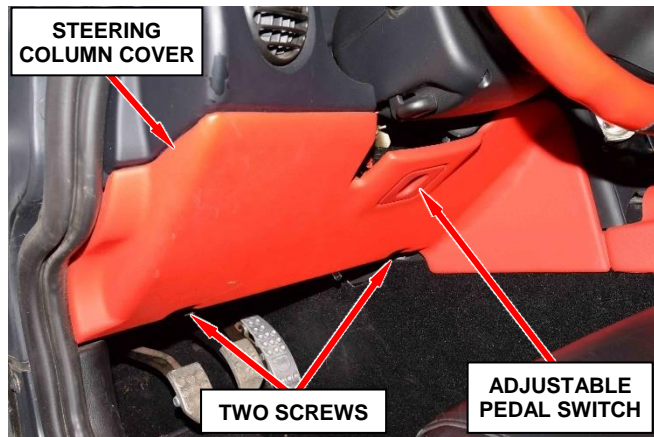

Figure 8 – Steering Column Cover
21. Remove two screws then release the retaining clips securing the left side steering column cover (Figure 8).
22. **If equipped**, disconnect the adjustable pedal switch electrical connector from the left side steering column cover (Figure 8).
23. Remove the left side steering column cover from the vehicle (Figure 8).
59. **If equipped**, connect the adjustable pedal switch electrical connector to the left side steering column cover (Figure 8).
60. Position the left side steering column cover to the instrument panel (Figure 8).
61. Engage the retaining clips securing the left side steering column cover to the instrument panel (Figure 8).
62. Install the two screws securing the left side steering column cover to the instrument panel (Figure 8).